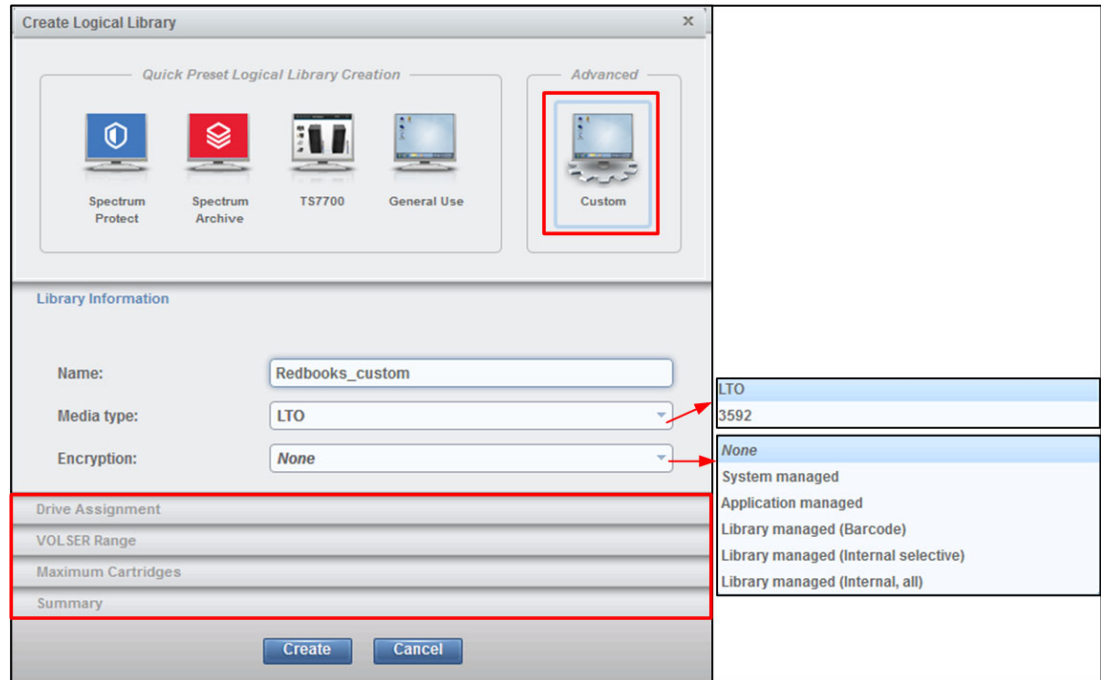

Figure 4-129 Custom logical library
1. Select the number of drives and slots to use for the logical library that you are configuring. Figure 4-129 shows the initial menu after you select **Custom**. Additionally, you can select the drive assignments, VOLSER range, maximum cartridges, and summary.